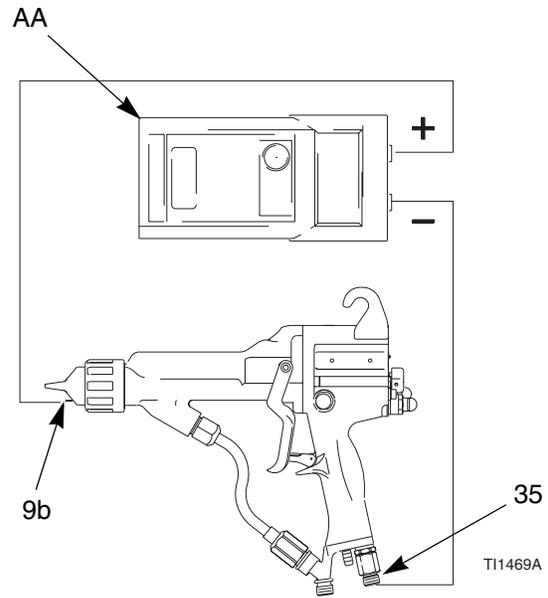

Fig. 5. Test Gun Resistance
Megohmmeter Part No. 241079 (AA-see FIG. 5.) is not approved for use in a hazardous area. To reduce the risk of sparking, do not use the megohmmeter to check electrical grounding unless:
2. Measure resistance between the electrode needle tip (9b) and the air swivel (35); it should be 156-180 megohms. See FIG. 5. If outside this range, go to the next test. If in range, refer to **Electrical Troubleshooting** on page 23 for other possible causes of poor performance.